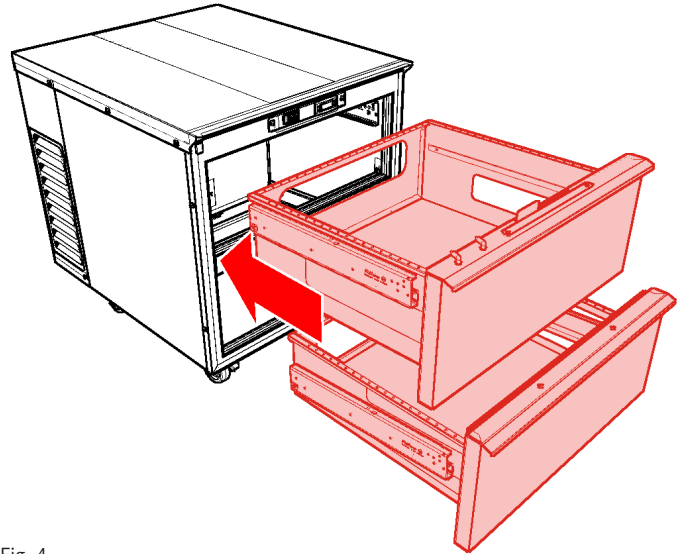

Fig. 4
5. Reinstall both drawers (Fig. 4) (See *Drawer Installation*, page 7).